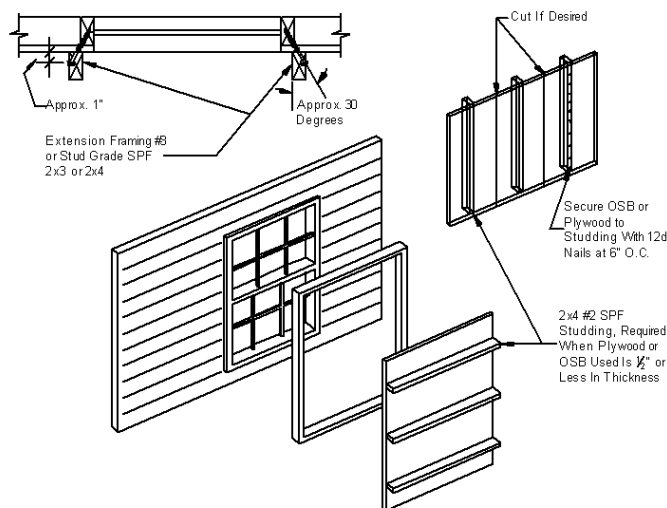

Figure 106. Wind protection shutter construction
If desired, prepare temporary protective window covers for use during severe wind storms and hurricanes according to **Figure 106, Table 31**, and the procedure below.
2. Assemble shutter panels as shown in **Figure 106**.